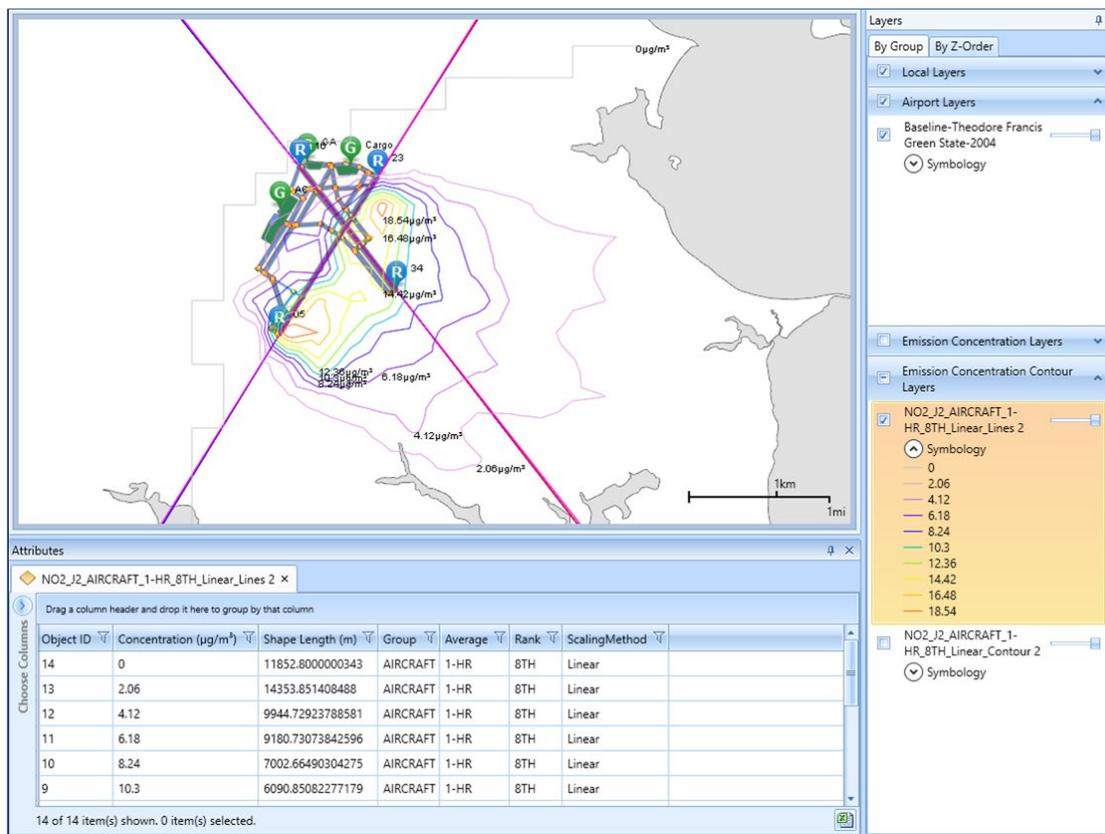

Figure 5-47 Sample Concentration Contour Layer with Attributes – Shown with Airport Layers
6. Click *OK* to generate and display the Concentration Contour Layers on the map (Figure 5-47) and in the *Layers* manager.
The following attributes are available for all Concentration Contour Layers: object ID, concentration, shape length, shape area, group, average, rank, scaling method, and concentration (Figure 5-47). See Appendix B.3 for descriptions of the attributes.